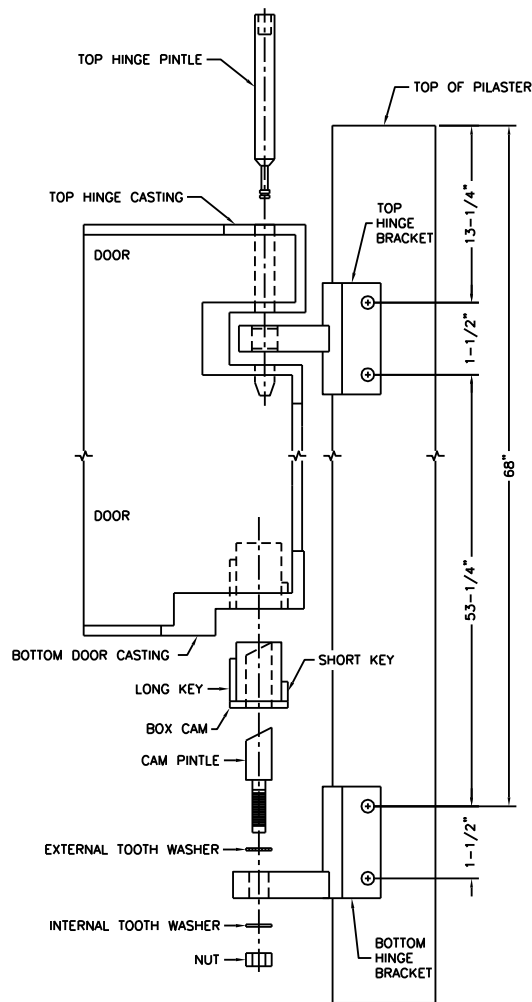

Figure 9A
- a. Attach top and bottom hinge brackets to pilaster with thru bolts (4-total). If pilasters were not pre-drilled at the factory, use dimensions shown in Figure 9A as a drilling ( $\frac{1}{4}$ " bit) guide.
- b. Assemble cam pintle, external tooth washer, internal tooth washer, and  $\frac{1}{2}$ " hex nut to the bottom hinge bracket as shown in Figure 9A and hand-tighten (to be wrench-tightened later).
- c. Insert box cam into bottom door casting as shown in Figure 9A, with short key pointing toward hinge side (edge) of door.
- d. Set door onto bottom hinge cam pintle. Bring door up so the top hinge casting is in line with the top hinge bracket as shown in Figure 9A. Insert the top hinge pintle and tap it down so it's flush with the top of the door.